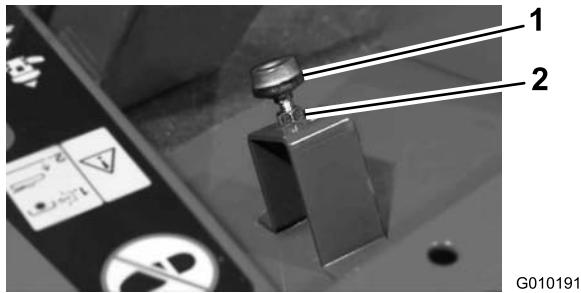

Figure 68
2. Depress the traction pedal until it is at full stroke (Figure 68). The jam nuts may have to be loosened and the stop lowered to attain full stroke.
3. Release the traction pedal and adjust the stop another half to full turn so that the pedal contacts the stop just before full stroke is attained, then, tighten the jam nuts (Figure 68).